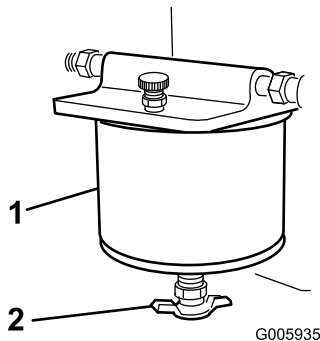

Figure 32
4. Turn the drain valve until the water runs out of the filter (Figure 32).